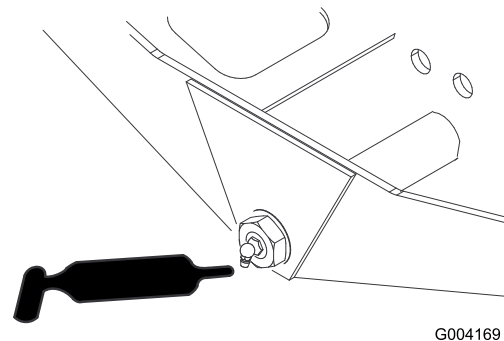

Figure 55
- Axle steering pivot (1) (Figure 55)